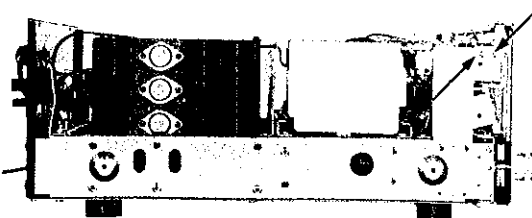

Figure C1
- b) Remove four screws from the Front Panel — two screws from the left side and two screws from the right side. (Figure C1, C2)